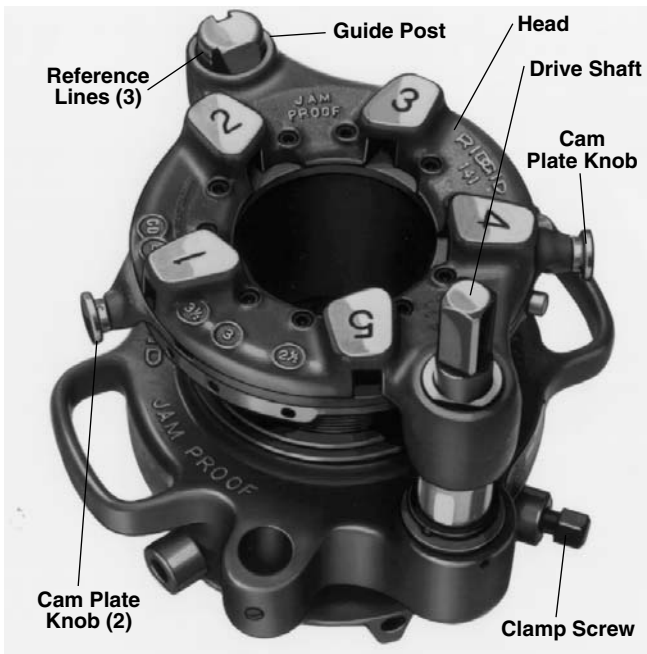

Figure 16 – No. 141 Geared Threader Showing Pinion Sleeve and Guide Post Reference Lines
Grasp workholder and turn square end of drive shaft or turn gear case by hand to respective reference lines on guide post (*Figure 16*).
4. Turn guide post until straight slot faces inward for straight thread. For tapered threads set tapered slot inward. *Figure 16* shows guide post set to cut tapered thread.
7. 141 and 161 – Using the socket wrench, loosen clamp screw (*Figure 16*), turn workholder to OPEN position and remove pipe.